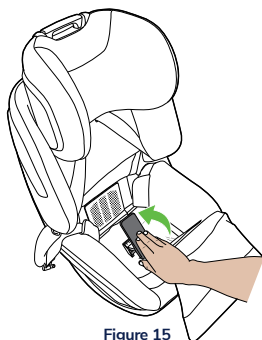

Figure 15
Step 1. Press the SMART Lock® down firmly to tighten and lock the ISOGO strap in place (Figure 15).